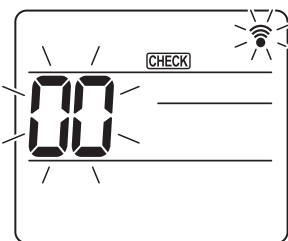
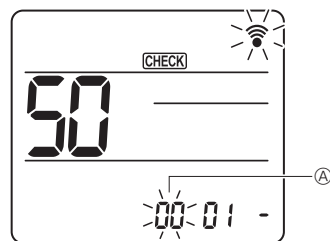
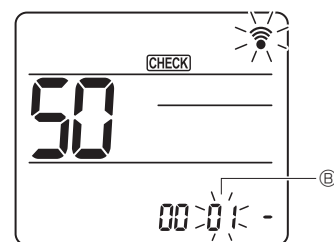
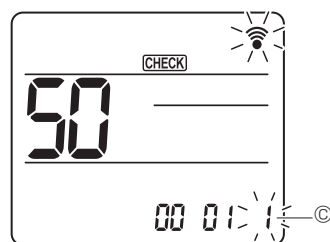

Fig. 7-16
Fig. 7-17
Fig. 7-18
Fig. 7-19
7.4.2. By wireless remote controller (Fig. 7-16, Fig. 7-17, Fig. 7-18, Fig. 7-19)
- ① Going to the function select mode
- [CHECK] is lighted and "00" blinks. (Fig. 7-16)
- ② Setting the unit number
- Press the [01] button to set unit number ①. (Fig. 7-17)
- ③ Select a mode
- Press the [50] button to set Mode number ②. (Fig. 7-18)
- ④ Selecting the setting number
- Use the [01] button to change the Setting number ③. (Fig. 7-19)
- ⑤ To select multiple functions continuously
- Repeat select ③ and ④ to change multiple function settings continuously.
- ⑥ Complete function selection